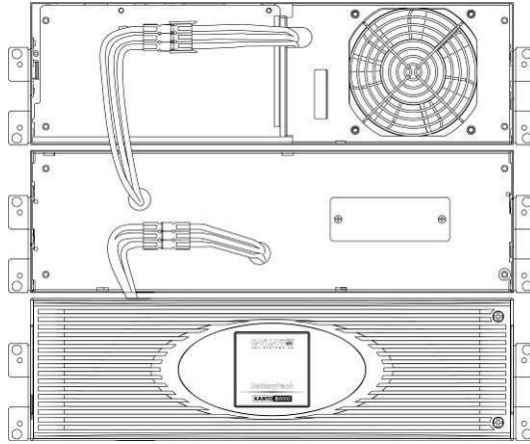

Figure 10: XANTO S 6000 with BP, Rack installation (front view)
4. Stick the cable of the battery module into the battery connection of the UPS system as shown in Figure 10). Up to four batteries can be connected to the UPS system.